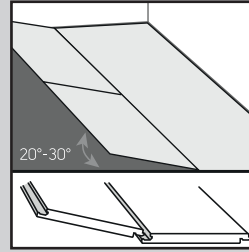
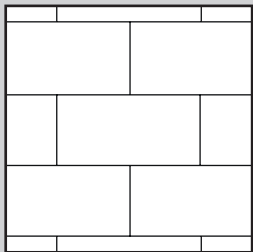
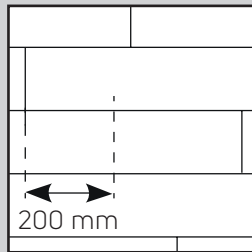

Fig. 3
Fig. 3a
Fig. 3b
Such that four corners never meet. Refer to installation Fig.3a / 3b.
4. Start the second row by clicking the tongue into the groove holding the plank at an angle (approximately 30°), then push the plank/tile firmly into the groove of the first row. Install the next plank/tile by clicking the tongue and groove together along the short edge. Ease the tongue and groove together on the long side by angling the planks/tiles together (Fig. 3). Tiles and planks should be installed 'off-set' such that four corners never meet (Fig. 3a and Fig. 3b).